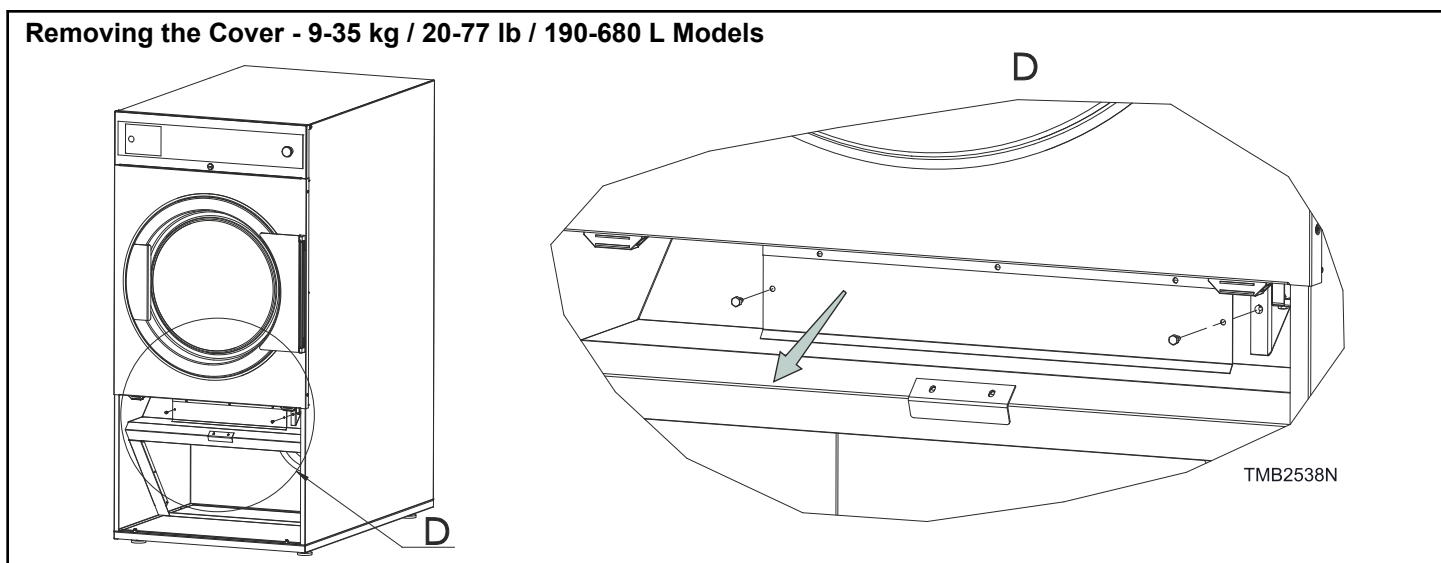

Figure 45
7. Remove the cover below the drying drum. Refer to *Figure 45*. Not valid for 9 kg / 20 lb / 195 L.